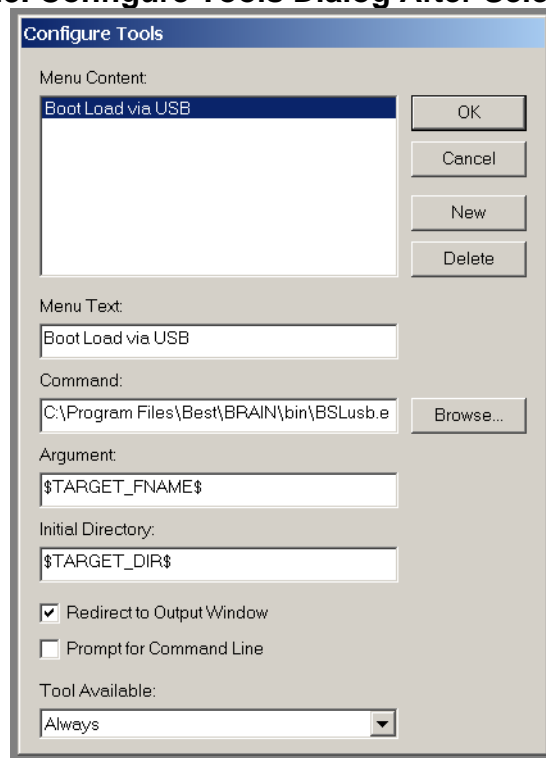

Figure 7.4. Completed IAR Configure Tools Dialog
8. Once the dialog box looks like that shown in Figure 7.4, click the “OK” button to complete the definition of the Tool item.